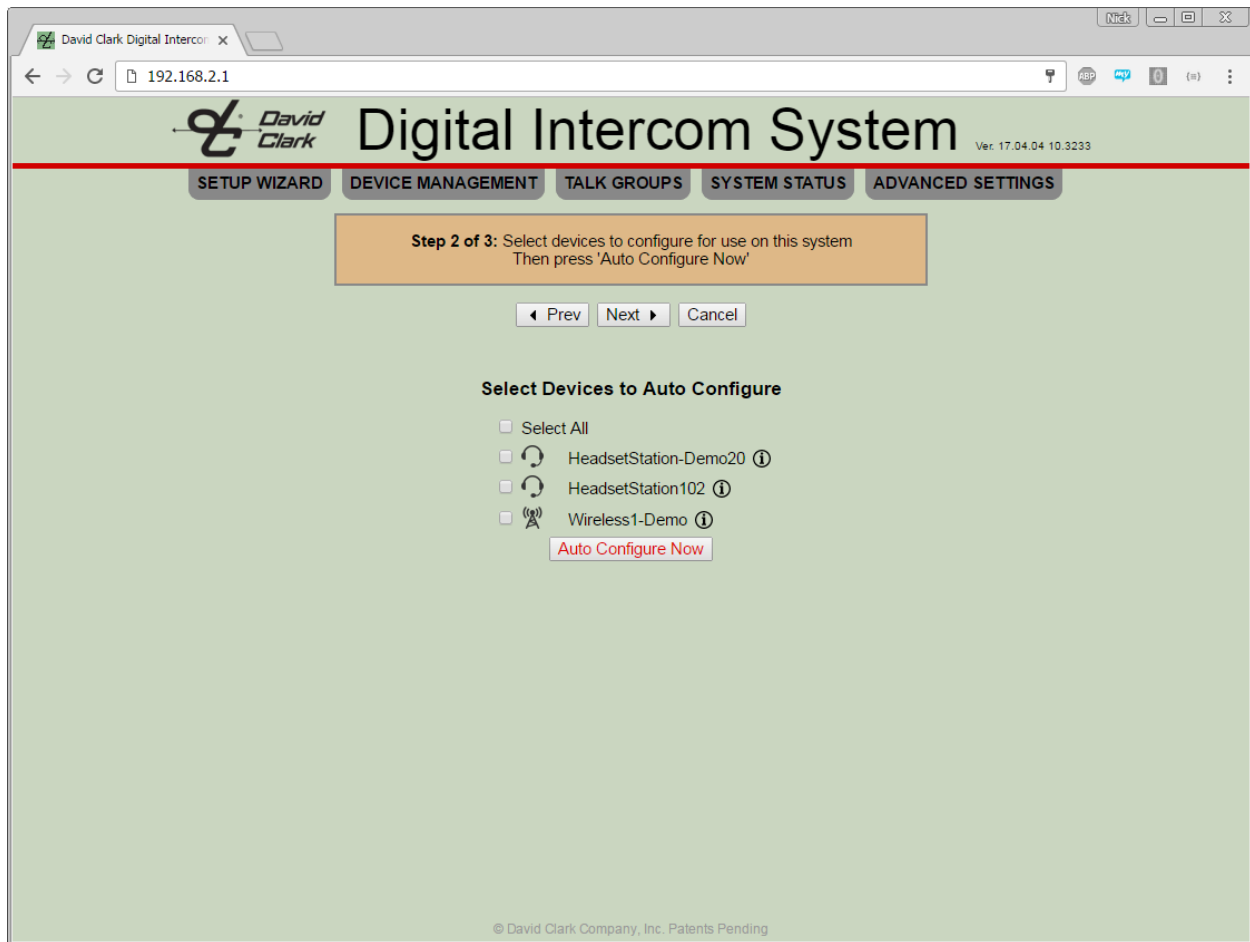

Figure 8.8
6. Once all renaming and settings have been made, click NEXT. The Auto-Configure page will be displayed. See **Figure 8.8**.